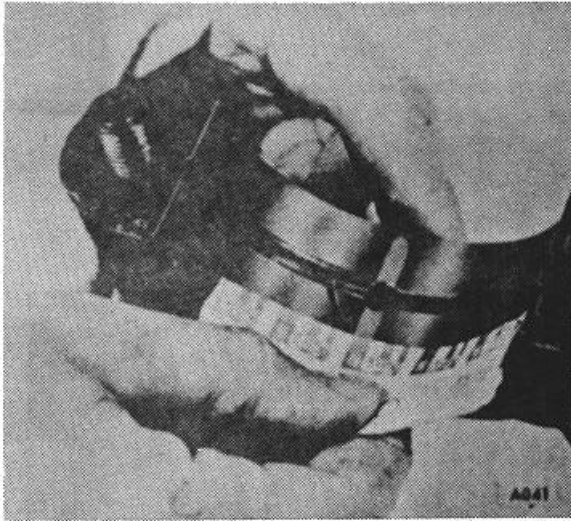

Figure 40.
**When using this method, do not turn the crankshaft as that would destroy the Plastigage. Compare the width of the plastic material with the gauge printed on the Plastigage envelope (Fig. 40) to determine the bearing clearance.**